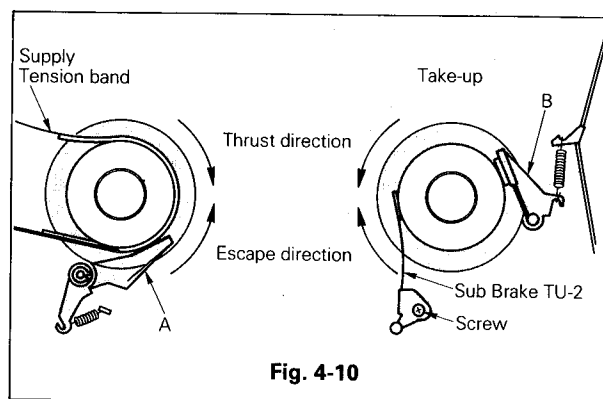

Fig. 4-10
- Be sure that the sub brakes (A), (B) are separated from the reel discs as shown in Fig. 4-10 in the playback and record modes.